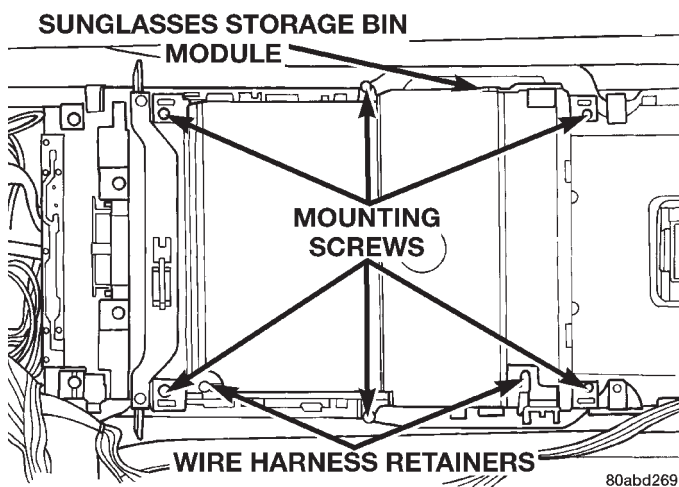

Fig. 6 Sunglasses Storage Bin Module Remove/Install
(1) Remove the overhead console as described in this group.
(2) Disengage the overhead console courtesy lamp wire harness from the retainers molded into the sunglasses storage bin housing.
(3) Remove the six screws that secure the sunglasses storage bin module to the overhead console housing (Fig. 6).